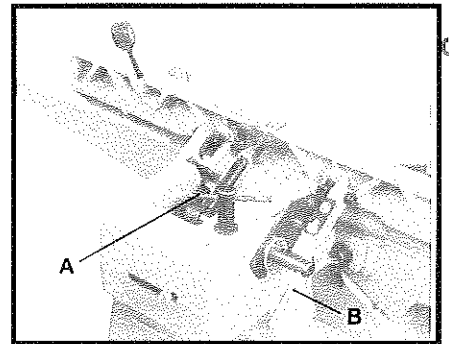

Fig. 13
The fence can be moved across the full width of the table and is held in place by tightening the locking handle (A). The fence tilts to any desired angle, to tilt the fence it is necessary to unlock the side handle (B) and swing back the stop (Fig.13).